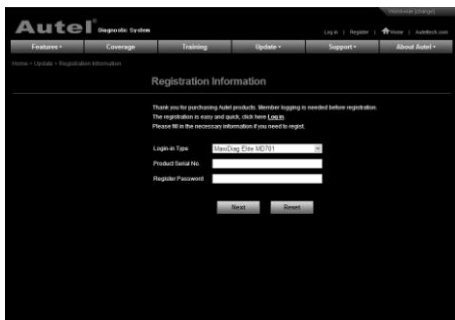

Figure 10.1
4. Put in the Product Serial No. and Register Password, and click on **Next**. (Figure 10.1)